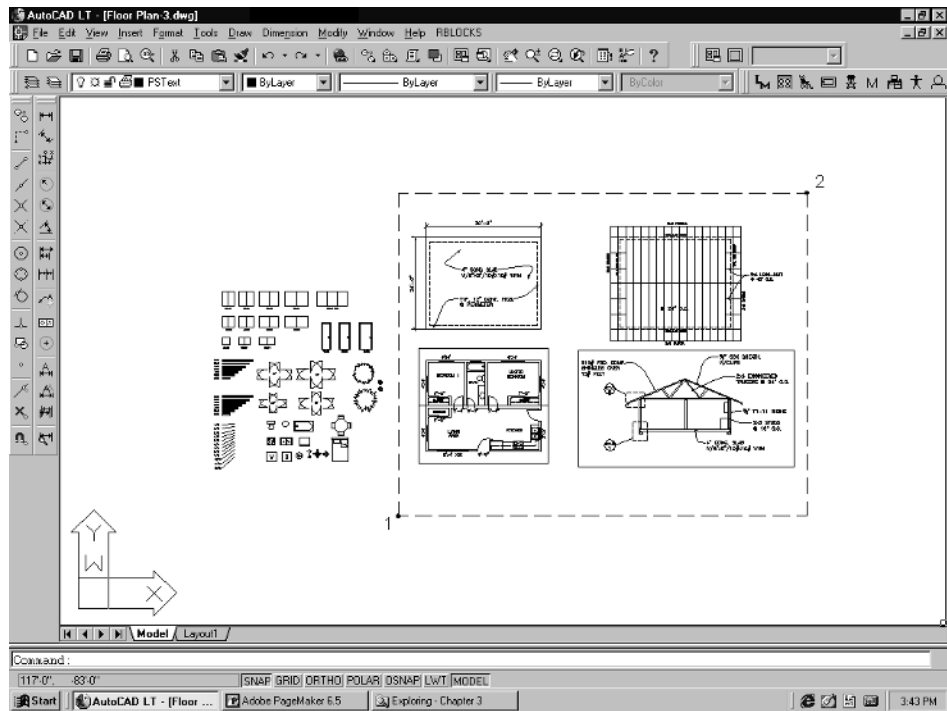

Figure 4-3
2. Type **M** and **Enter**, or select **Move** from the Modify pull-down menu. At the command line prompt *Select objects*, draw a window around all of the elements in the drawing by picking points 1 and 2, as shown in Figure 4-3. Then press **Enter**.